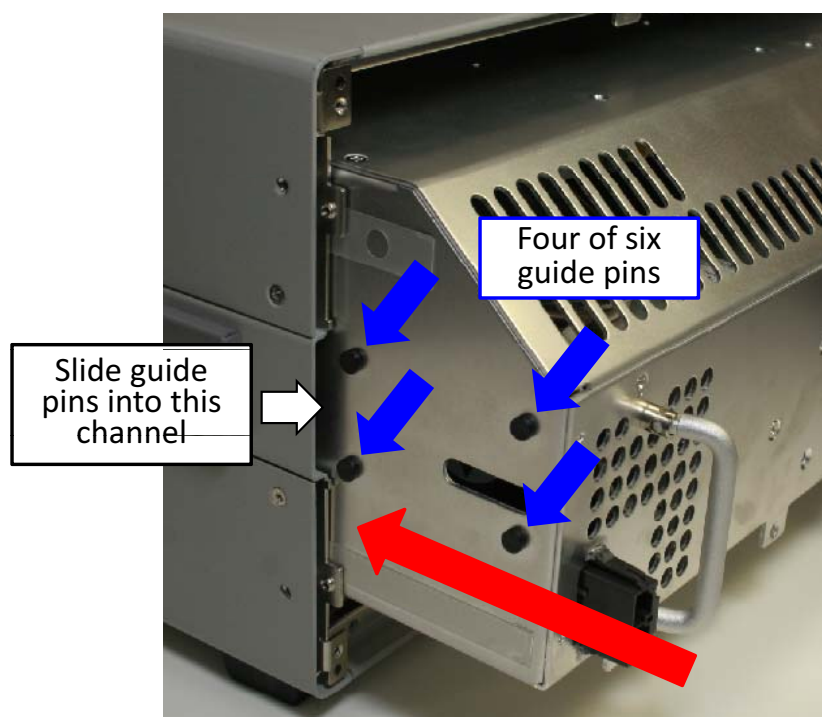

Figure 95 Slide the power supply in using the guide pins to align it
- 1 Slide the power supply in the chassis, ensuring that the six guide pins on each side of the power supply are aligned in the channel inside each side of the chassis—see Figure 95.